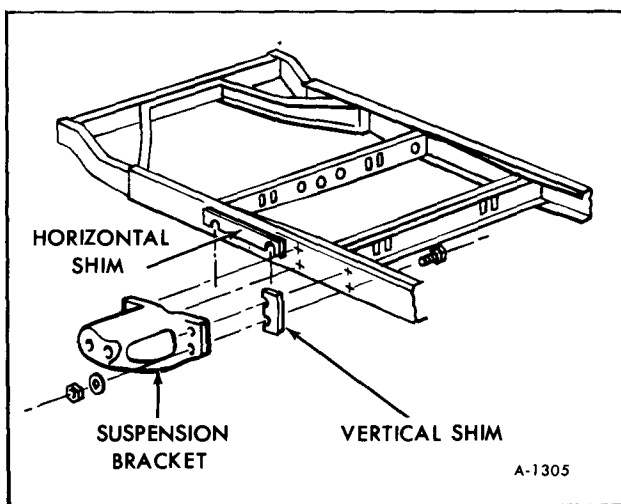

Figure 68—Rear Wheel Shim Location
If toe-in is not correct it must be shimmed as shown in Figure 68. Follow this procedure for adjustment.
3. Insert proper shim as shown in Figure 68.
Camber is adjusted by shimming as shown in Figure 68. Following the same shimming procedure as that used before to set toe-in.